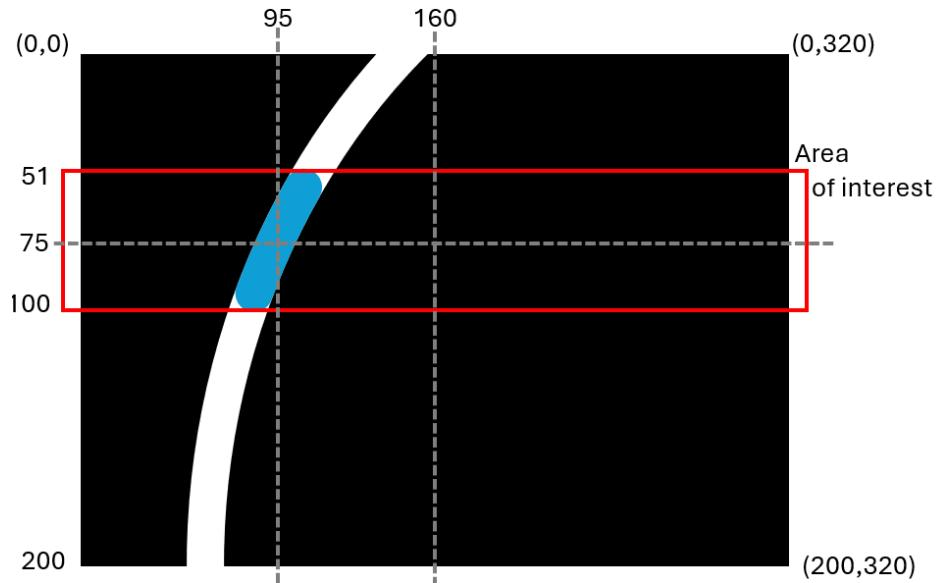

Figure 5. Image with the blob of interest in blue.
3. Find the error angle of the blob center based on the bottom center of the image. Use Figure 5 as a reference to find the correct geometric function to use. The angle error angle will be used for determining the turn speed command for the QBot.